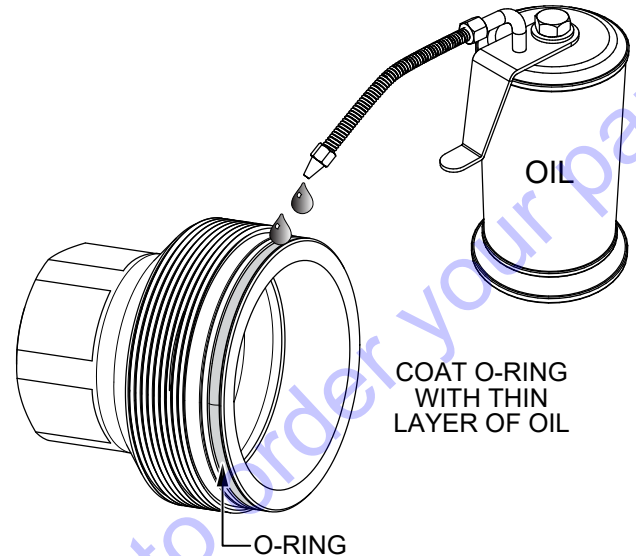

Figure 73. O-Ring Lubrication
4. When replacing the O-ring, be sure to lightly coat the new O-ring with clean lubricating oil (Figure 73).